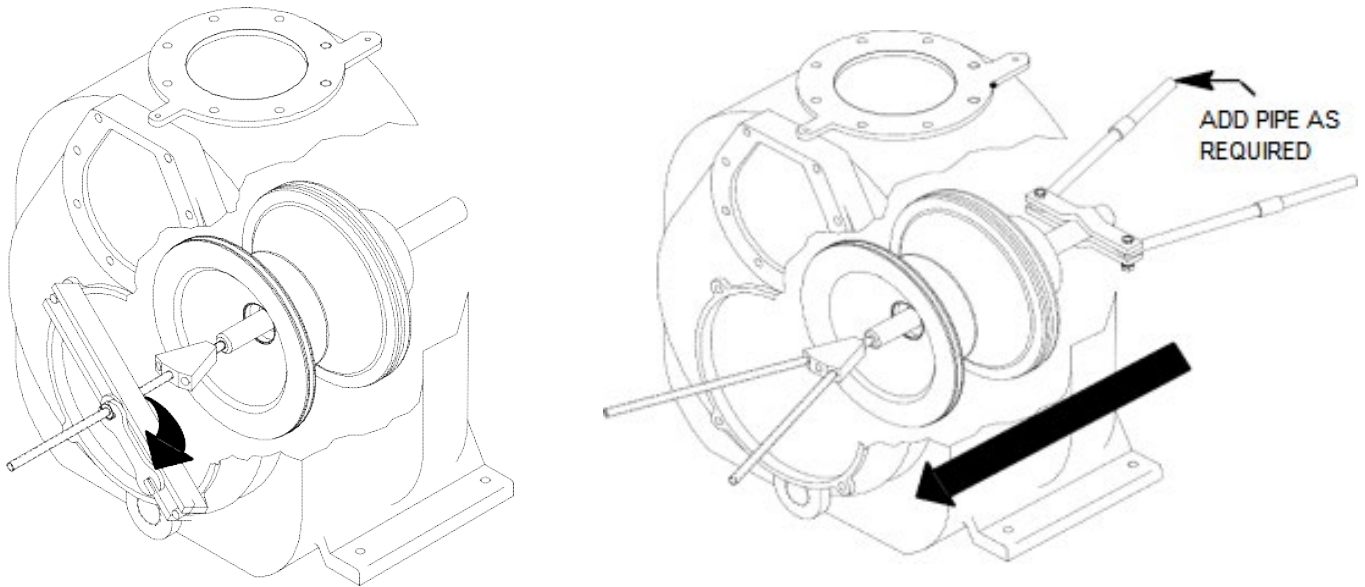

Figure E-3. Rotating Assembly Removal With Tool
Remove the inner hardware (64 and 65) from the adapter ring (59). If the removal tool is used, follow the instructions packaged with it, and pull the rotating assembly from the pump casing (see **Figure E-3** for removal tool use). If the removal tool is not used, install three of the inner cap screws in the jacking holes in the adapter ring (59), and use them to press the rotating assembly into the pump casing until the bearing housing is free.